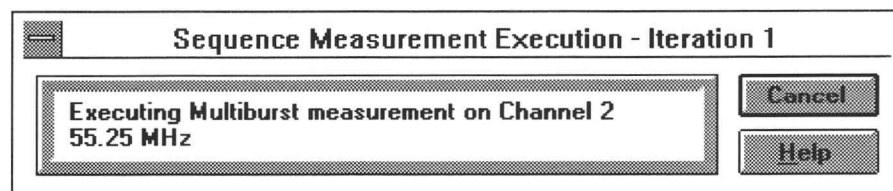

Figure 4-28. The dialog box that tells you that CSS500 is running a Measurement Sequence.
1. Choose the Meas Seq command button from the Button Bar or from the Measure menu choose Measurement Sequence. The dialog box Figure 4-28 appears.